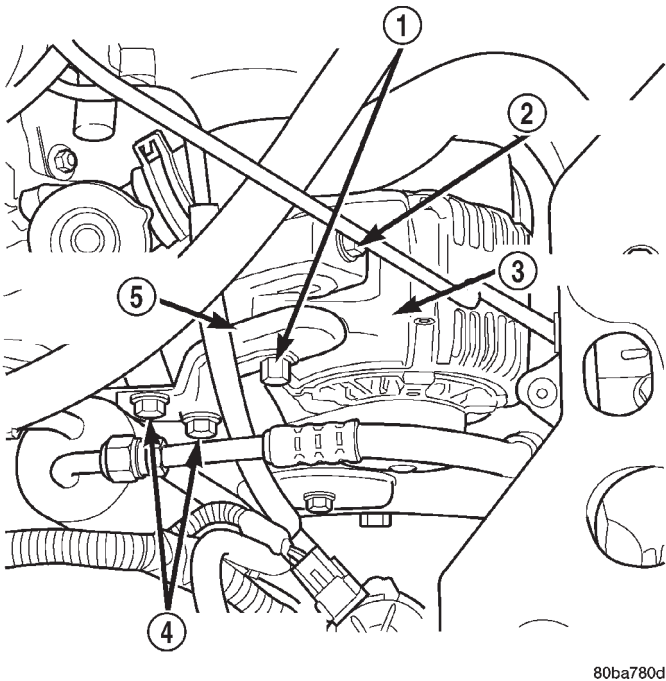

Fig. 1 Generator Position & Orientation — Front
(1) Disconnect the negative battery cable at the remote terminal, located on the left strut tower.
(2) Remove the generator pivot bolt. Located directly below the generator.
(3) Remove the generator lock nut (Fig. 1).
(4) Loosen the (2) generator support bracket retaining bolts (Fig. 1).
(5) Loosen the accessory drive belt tension bolt (Fig. 1).
(6) Remove the accessory drive belt from the generator pulley.
(7) Disconnect the (2) generator electrical connectors
(8) Remove the generator pivot bolt.
(9) Remove the generator from the vehicle.